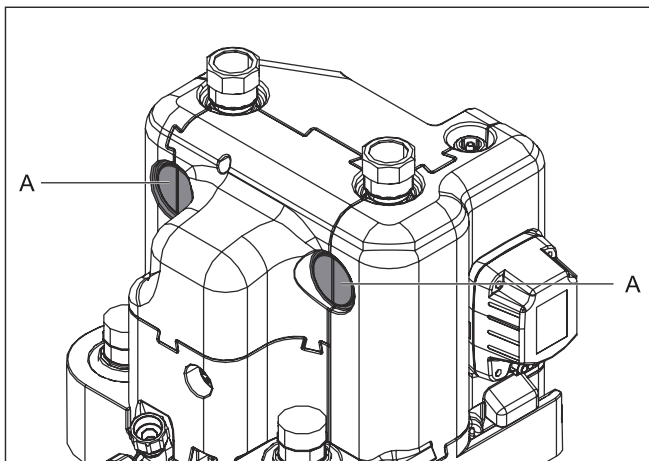

Fig. 4-20 Cut-out in thermal insulation
- Cut out side openings in the thermal insulation (Fig. 4-20, item A) using a suitable tool.